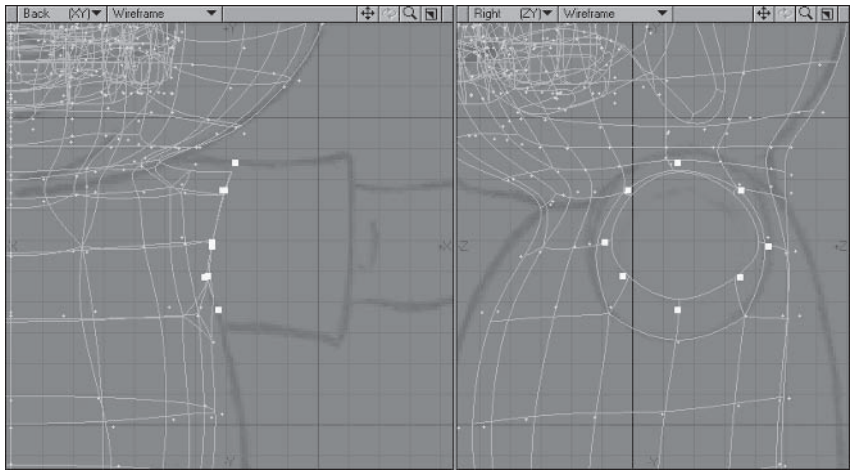

Figure 5.4-8. Adjusting points.
3. **Delete** the polygons, select the points, and adjust them to match Figure 5.4-8.